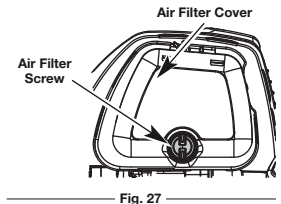

Fig. 27
1. Open the air filter cover by unscrewing the air filter screw (Fig. 27).
6. Turn the air filter screw clockwise until the air filter screw is tight (Fig. 27).